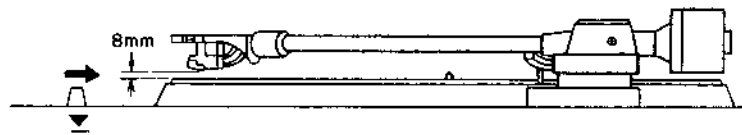

Fig. 11
- 3) Put a record on and set the elevation control to  $\nabla$ . Adjust screw (a) until there is an 8 mm gap between the tip of the stylus and the surface of the record. (Refer to Figs. 11, 12.)